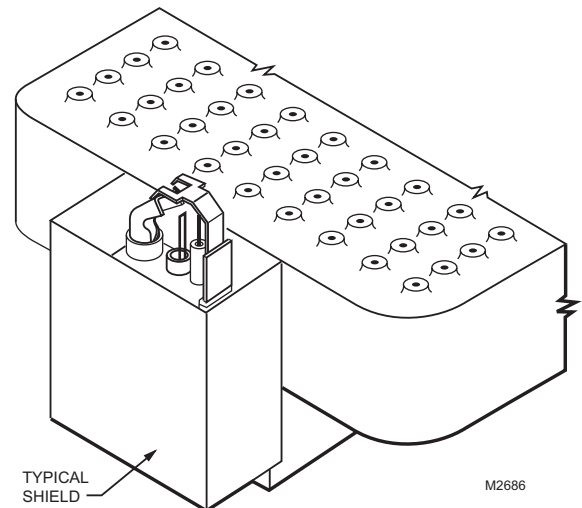

Fig. 9. Proper shielding of pilot flame.
2. If all mounting and location instructions are followed but the pilot continues to go out, construct a shield to protect the pilot flame from the main burner ignition, extinction and drafts. See Fig. 9